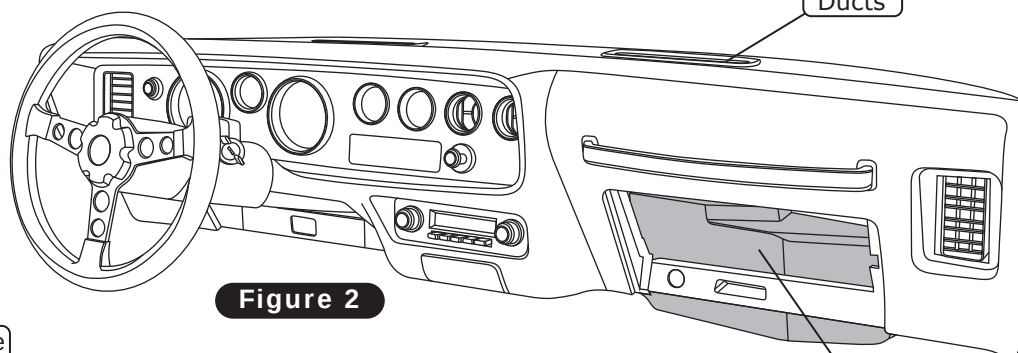

Figure 2
5. Remove the OEM heater assembly (discard) (See Figure 2, below).
7. Remove the (2) wires and grommets located on the firewall by the heater/evaporator assembly opening (discard).
8. Remove the OEM defrost ducts (discard) (See Figure 2, below).
6. Using (3) OEM screws, install the passenger-side louver hose adapter onto the back side of the passenger-side louver as shown in Photo 1, below.
7. Locate the center louver hose adapter, and install (2) S-clips ((1) on the center top and (1) on the center bottom) as shown in Figure 2, below.
8. Secure 22" length of 2 1/2" duct hose onto the hose adapter as shown in Figure 2, below.
9. Install the hose adapter onto the back side of the OEM center louver as shown in Figure 2, below.
7. Reinstall the vehicle's OEM kick panel trim, then make the necessary trim at the kick panel fresh air cover (See Figure 2, below). **NOTE: Retain the kick panel fresh air cover until after the evaporator module is installed.**